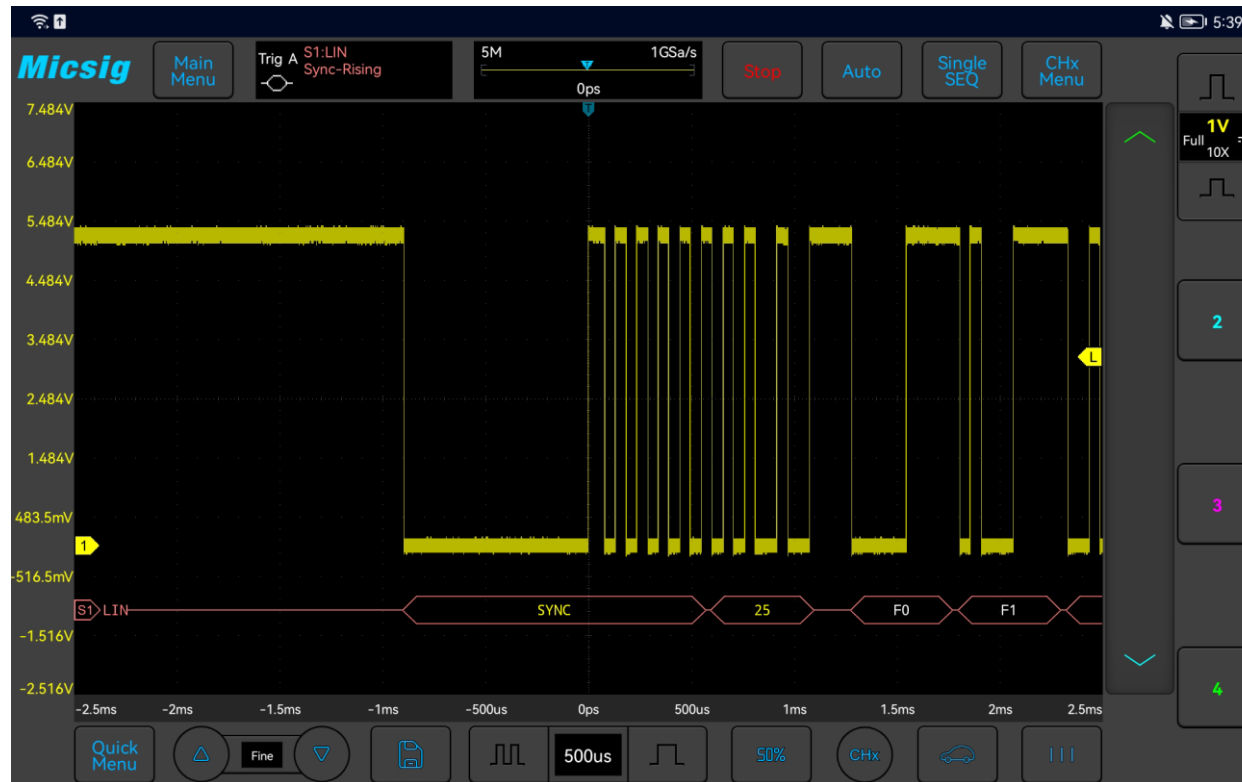

Figure 12-4 LIN Interface
- (1) Tap S1 to open the decode channel, and click again to open the bus configuration menu;
- (2) Select the bus type as “LIN”, click “Ch1”, “Idle High”, “19.20kb/s”, and then close the menu;
- (3) Open the trigger mode configuration menu and click “Synchronous Rising Edge”;
- (4) Click  configuration information to open the decode channel threshold level adjustment box, and drag the adjustment box upward and downward to adjust the threshold level; adjust the threshold level according to the signal amplitude level to make the signal stably triggered. The LIN trigger graphic interface is shown in Figure 12-4: